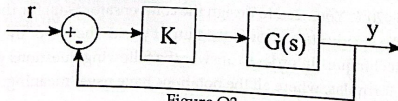

Figure Q3
ii) Consider the closed-loop control system shown in Figure Q3 where
- b) Consider the closed loop control system shown in Figure Q3 where